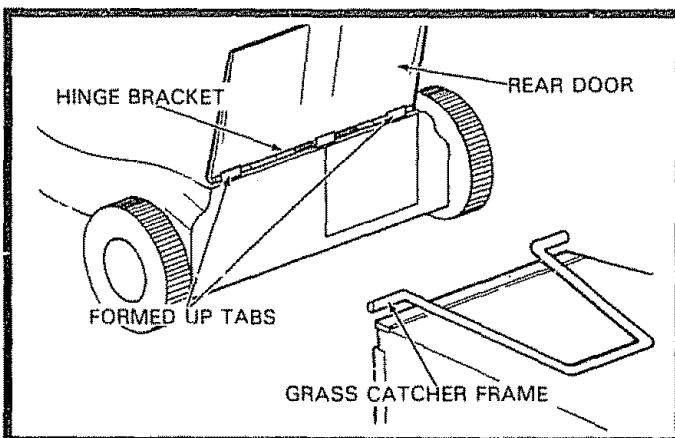

FIG. 3
- Lift the Rear Door on the Lawn Mower Housing and place the Grass Catcher Frame onto the formed up Tabs on the Rear Door Hinge Bracket (See Fig. 3).